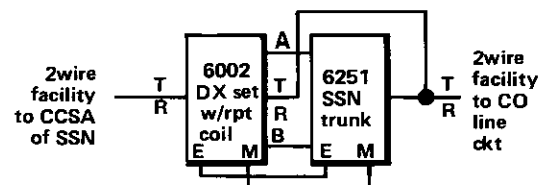

figure 3. Typical DX application, 2wire
2.07 While most applications involve a 4wire facility, a 2wire facility toward the CCSA can also be interfaced. In 4wire applications, a terminating set provides transmission-lead continuity, while in 2wire applications, a repeat coil provides this continuity. In figure 3, the repeat coil is provided as part of the 6002 DX signaling set. Idle-line termination is provided to the term set or repeat coil by the 6251.